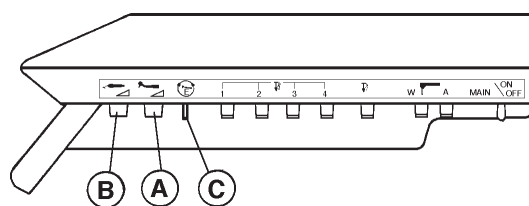

Fig.3-9 Control Knobs and Switches for Optinal Equipment
(4) Control Knobs and Switches for Optional Equipment (Fig.3-9)